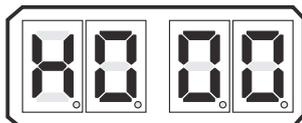

Figure 10-2: Display Troubleshooting Function
- Depress the Up or Down Push Button repeatedly until H000 is displayed like Figure 10-2: Display Troubleshooting Function.